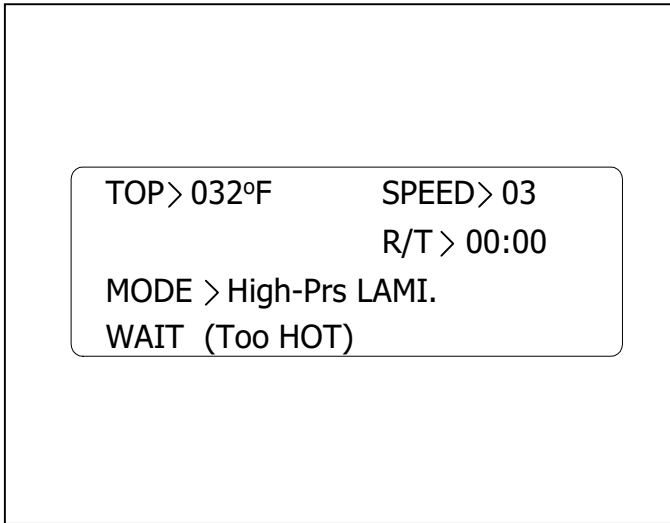

Fig. 8
CONTROL PANEL DISPLAY: (Figure 8) Illuminates when the laminator is plugged in and **POWER ON/ OFF** is in the on, (I), position. Displays settings for top heater, bottom heater, speed, run time, mode and ready/ wait indicator.